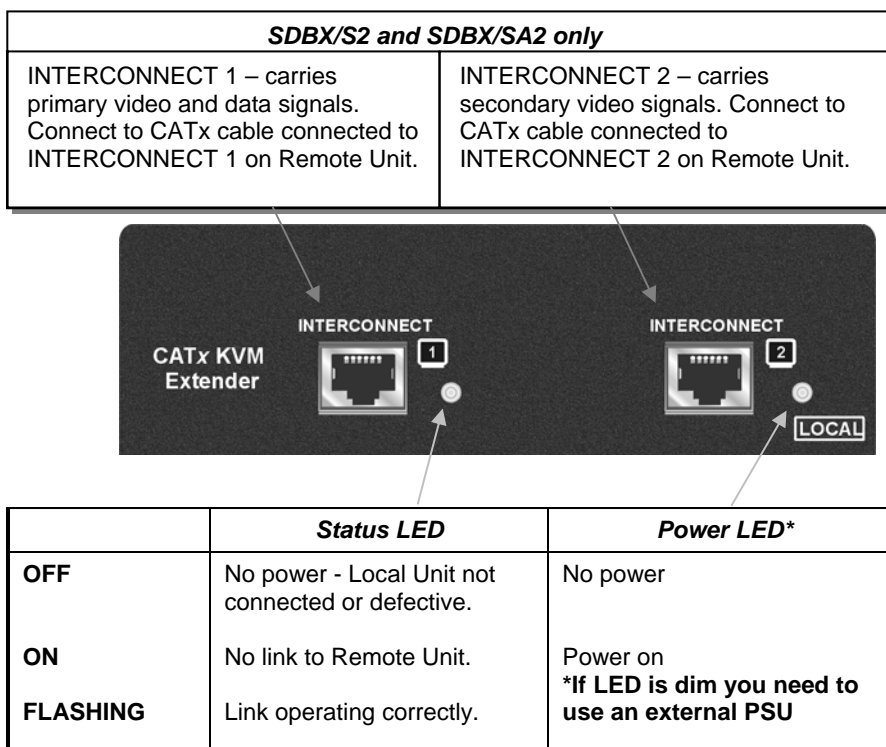

Figure 9 SDBX Local Unit (Dual Video) – front view
- Illuminates the yellow channel 1 LED continuously (see Figure 9). Note. The Yellow LEDs on other video channels are not lit.